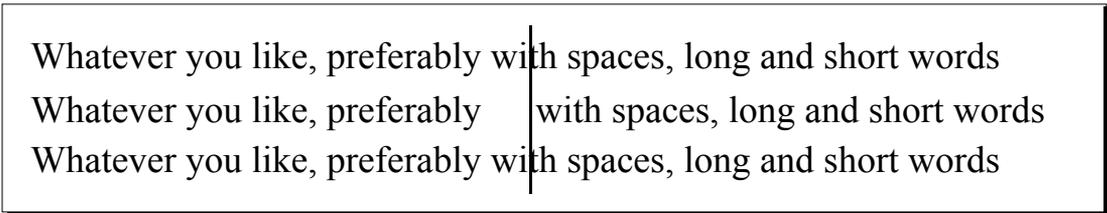
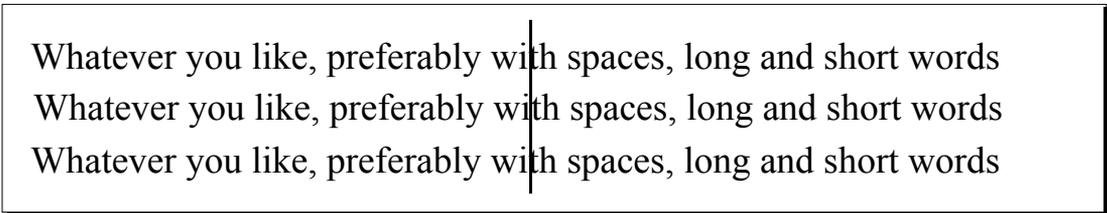

Figure 1 With `FlushGrafPortState`
Figure 2 Without `FlushGrafPortState`
The PostScript LaserWriter driver substitutes Times for New York. But New York (on the screen) is larger than Times, and the driver distributes the line layout error among the word spacings and, to a much lesser extent, among the intercharacter spacing. Note that the beginning of the `testString2` ("with spaces, ...") is slightly moved to the left in lines 1 and 3. The LaserWriter driver heuristically concludes that `testString1` and `testString2` belong to the same line, and applies the distribution of the line layout error to the concatenated string. It appears that the driver deliberately ignores the `MoveTo(x0+w, y)` instruction; figure 2 demonstrates this quite clearly in the second line, where the `LineLayoutOff` picture comment has been issued. `LineLayoutOff` does **not** disable the driver's attempt to collect the arguments of separate text drawing instructions into one logically coherent piece of text. This behavior is necessary to assure that indices or exponents in the text appear at the right horizontal position. Figure 1 shows that `FlushGrafPortState` after a `MoveTo` always guarantees precise text placement.
where indicated by {••• (2) ... }, and remove the call to `FlushGrafPortState`, we will obtain the same output as in Figure 1. In other words, these picture comments are what you need to turn the LaserWriter driver's line layout behavior off, and completely so!